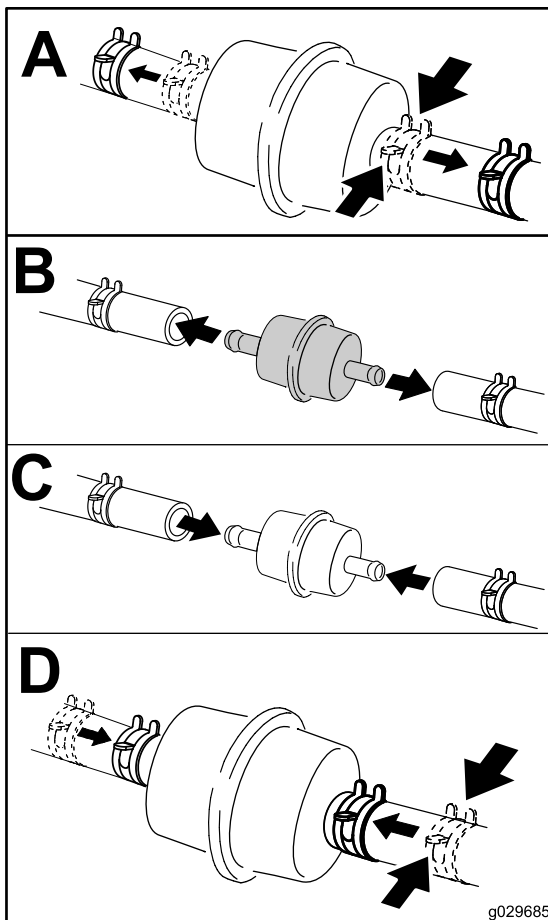

Figure 69
4. Replace the fuel filter (Figure 69).